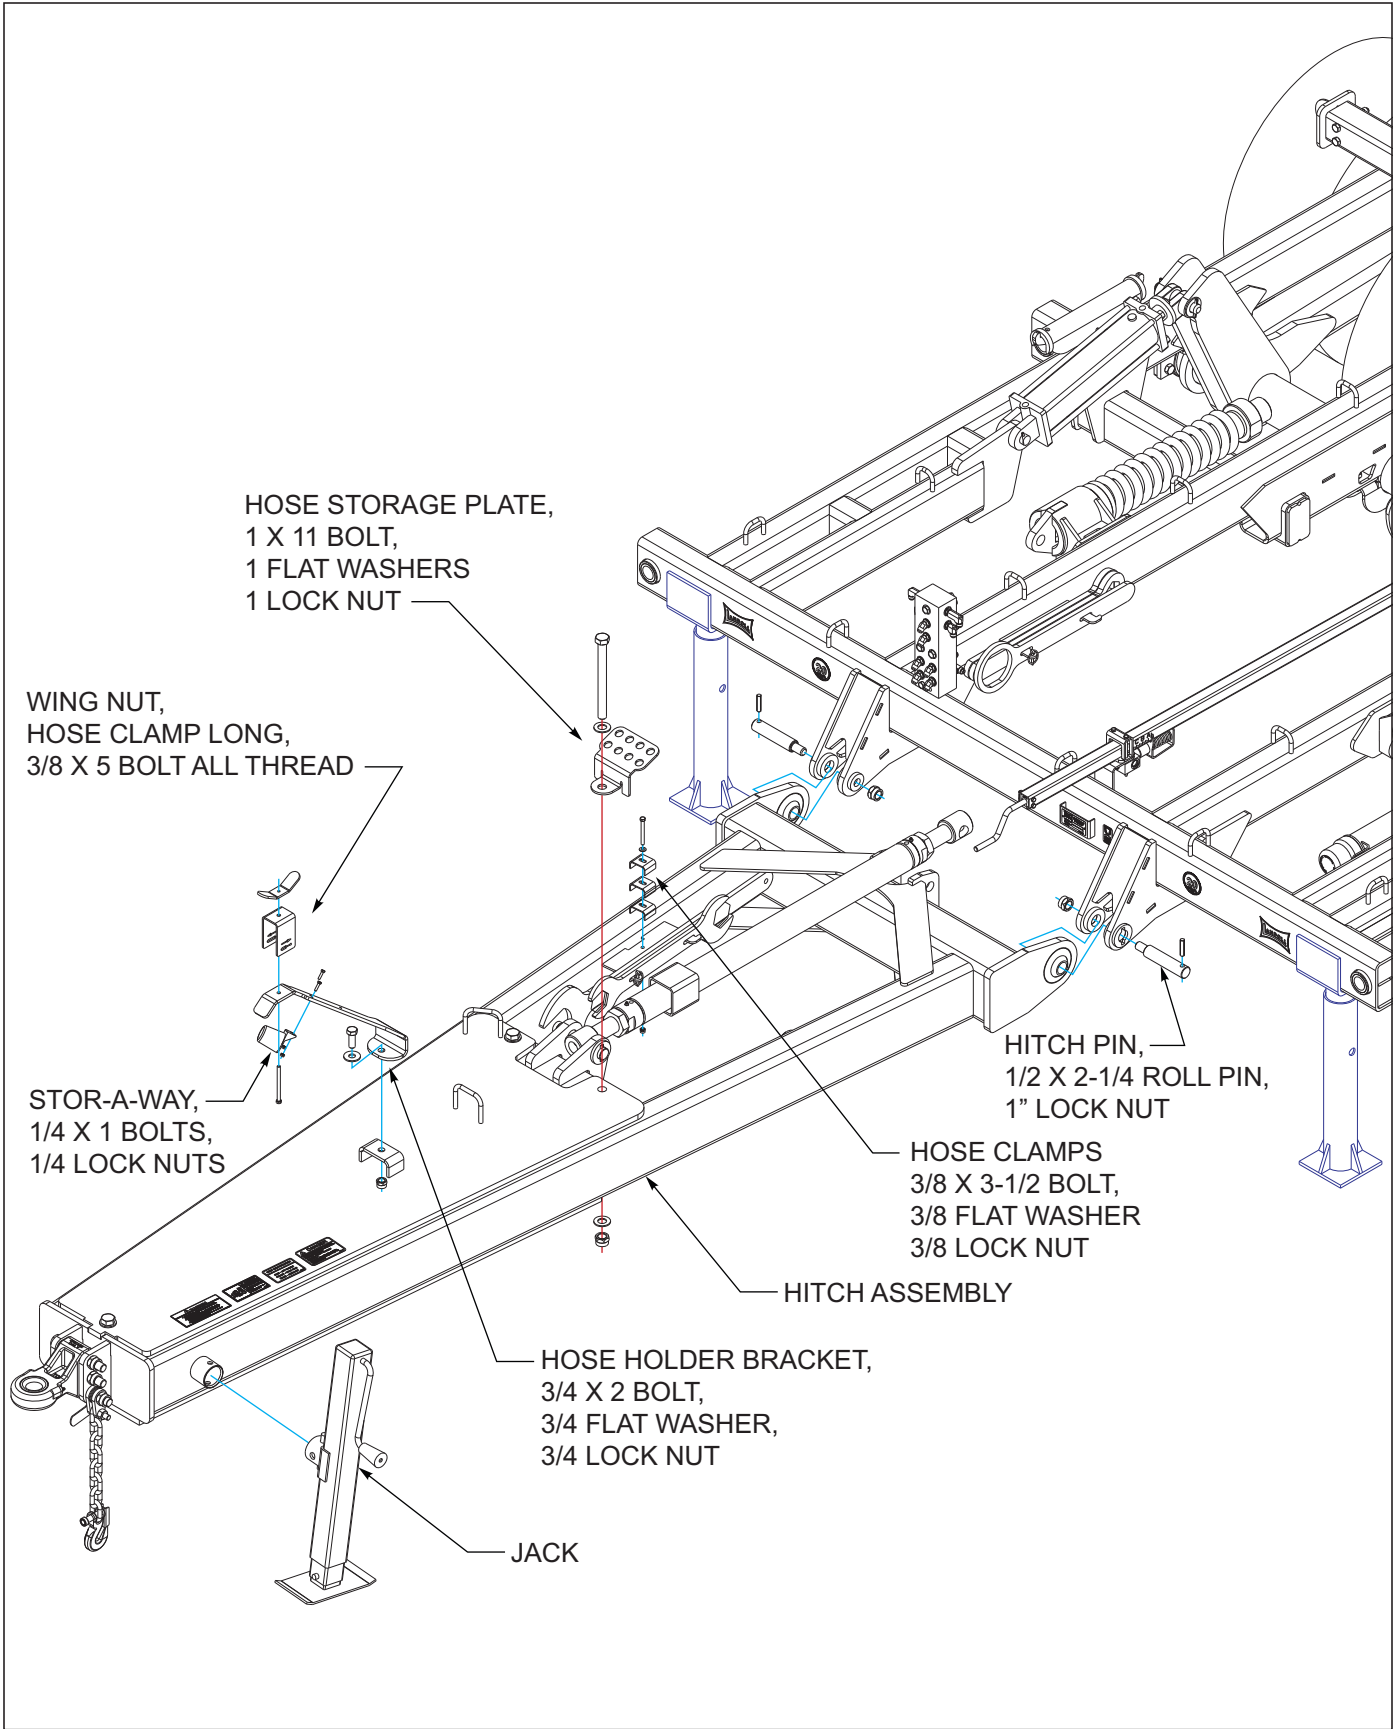

Figure 3-3: Hitch Assembly
1. Attach the hitch assembly to the front of the center frame using hitch pins, 1" lock nuts, and 1/2 x 2-1/4 roll pins See Figures 3-3.
4. Remove the 1 x 11 bolt from hitch assembly and install the hose storage plate in position shown See Figures 3-3. Re-install the 1 x 11 bolt, 1 flat washer and 1 lock nut.